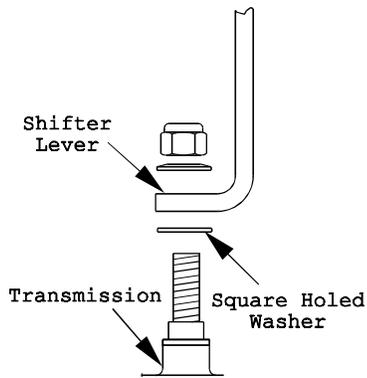

FIG. 6
- a) Remove the 3/8" nyloc nut and spring disc washer from the stud on top of the transmission. Install the shifter lever through slot in shifter lever plate and onto the stud on top of transmission. Be sure the square-hole washer remains between the lever and transmission. Replace the spring disc washer and nyloc nut (See Figure 6). Torque the 3/8" nut to 35 ft. lbs. (47 N·m).